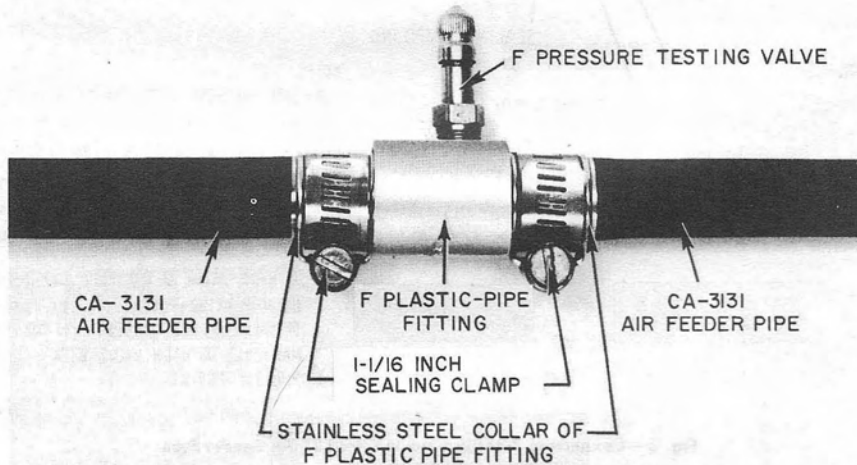

Fig. 4—Typical Arrangement for Pipe Connection Where Tubing Connection Is Not Required
- (1) Rough cut the CA-3131 pipe with an R2761 skinning knife, leaving the pipe about 1/2 inch longer than required.
- (2) Insert the C pipe shaper, pushing it fully into the pipe. Now, with the aid of the shaper, finish cut the pipe, using a commercial tubing cutter.
- (3) Remove the C pipe shaper from the pipe, and slip the stainless steel collar and a 1-1/16 inch sealing clamp onto the pipe.
- (4) Insert the O-ring equipped end of the fitting fully into the pipe so that the end of the pipe is imbedded in the sealing compound of the fitting.
- (5) Slip the stainless steel collar of the fitting against the body of the fitting. Complete the connection by placing the 1-1/16 inch sealing clamp on the collar between the two ridges and tightening the clamp securely; the screw of the sealing clamp should be **away** from the collar opening.
- (6) The *F plastic pipe fitting* is used for making straight-through pipe connections as follows:
- (a) At manholes where plastic tubing connections to the pipe will not be required (Fig. 4), coat the threads of an F pressure testing valve and install it into the port of the fitting.